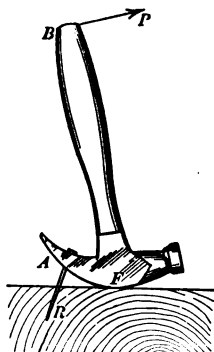

FIG. 16. — Hammer as a bent lever.
**23. Bent lever.** Consider next a claw hammer (Fig. 16) with a 12-inch handle. If a 60-pound pull ( $P$ ) at  $B$  is necessary to pull the nail at  $A$ , which is 1.5 inches from  $F$ , what is the resistance ( $R$ ) which the nail offers? The moment of  $P$  is  $P \times BF$ , and the moment of  $R$  is  $R \times AF$ , therefore  $60 \times 12 = R \times 1.5$ , and  $R = 480$  pounds. In this case it will be seen that the two arms of the lever are